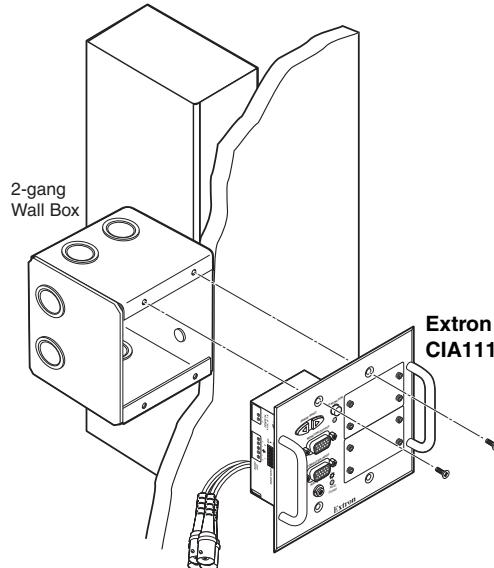

Figure 2-8 — Mounting the interface to the wall box
3. Mount the interface's faceplate to the wall box with the provided machine screws (figure 2-8).